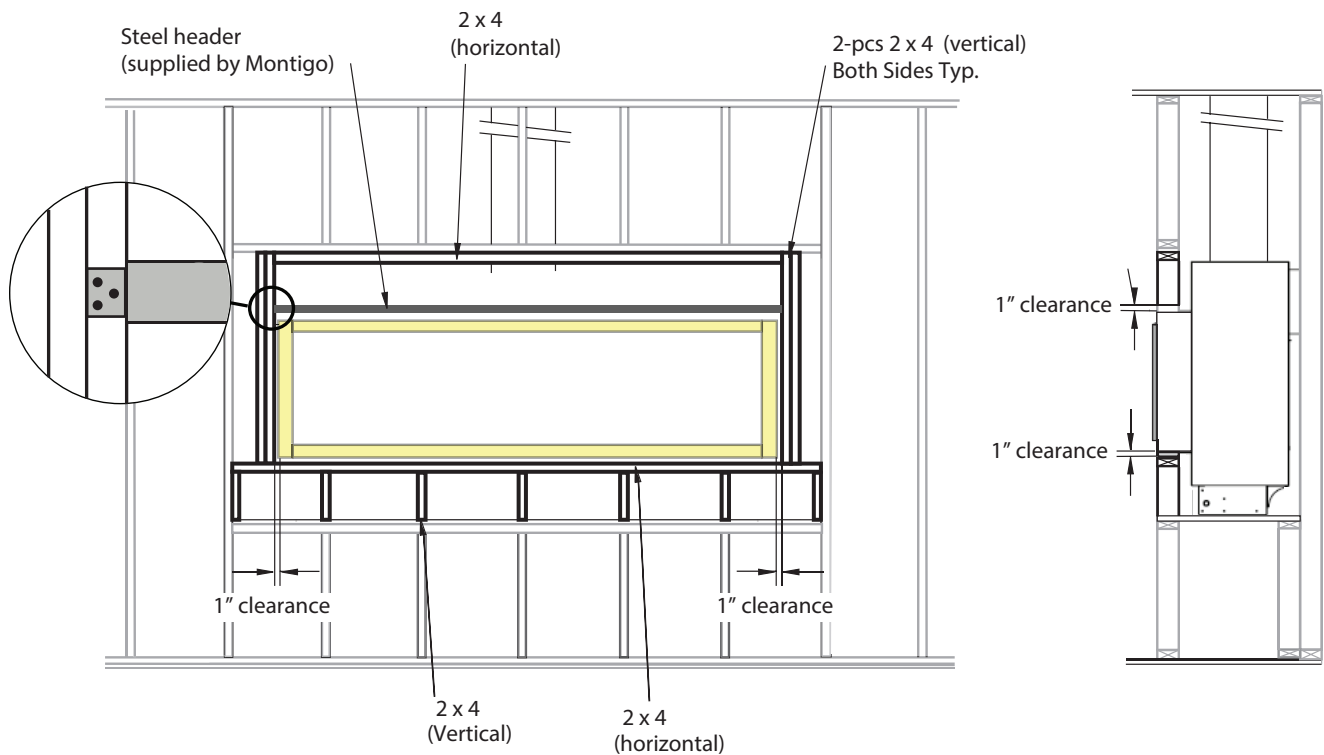

Figure 5. Completed back frame Fireplace installation
- Step 5).** Install supplied steel header 1" above the throat. Attach steel header to vertical 2x4's as shown in **figure 5**.